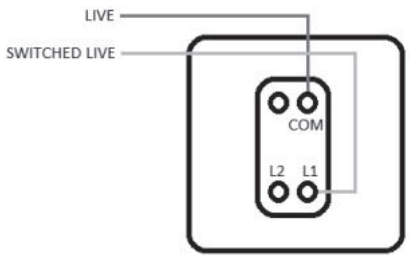
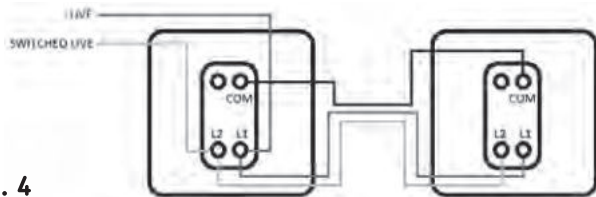

Fig. 3
Fig. 4
- Replace the gasket onto the backbox, then carefully wire as shown in Fig. 3 (one-way operation) or Fig. 4 (two-way operation), ensuring the correct polarity is observed